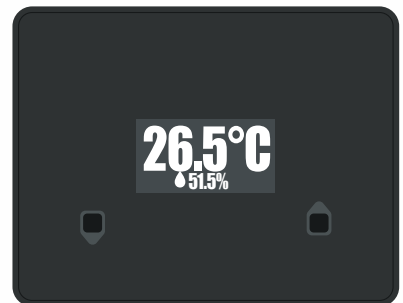

Fig. 1
- 7 Wait about 2 minutes for the sensors to go offline (Fig. 1).
- 10 After completing the address change, wait a few seconds for the Room sensor to return to the offline operation screen (Fig. 1)
- 3 Wait about 2 minutes for the sensors to go offline (Fig. 1).
- 6 After finishing the modification of the desired parameters, wait a few seconds for the Room sensor to return to the offline operation screen (Fig. 1)